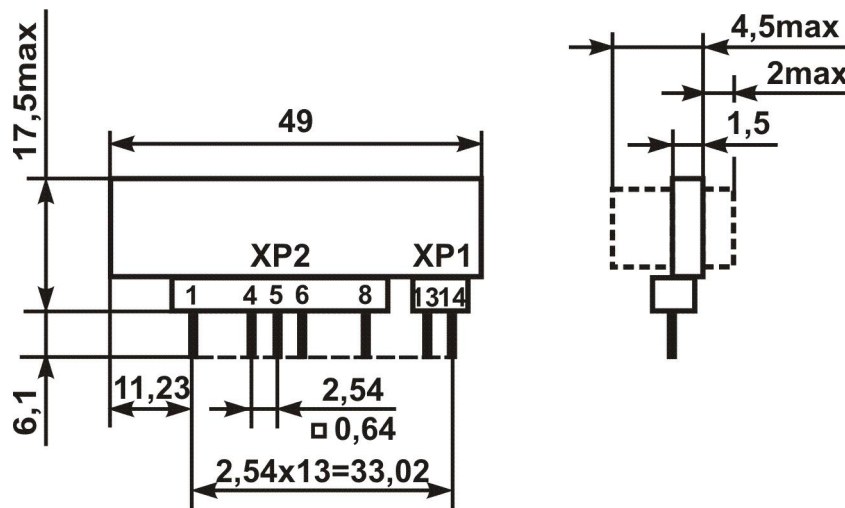
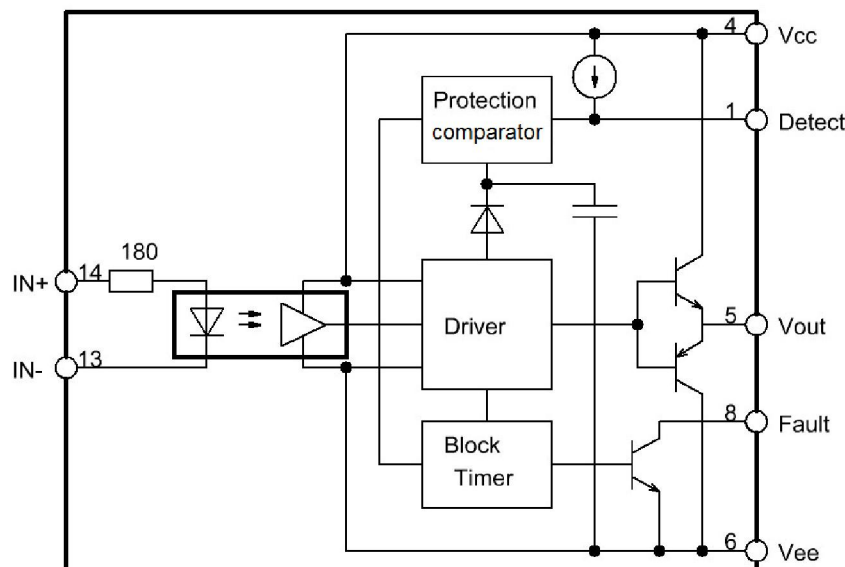
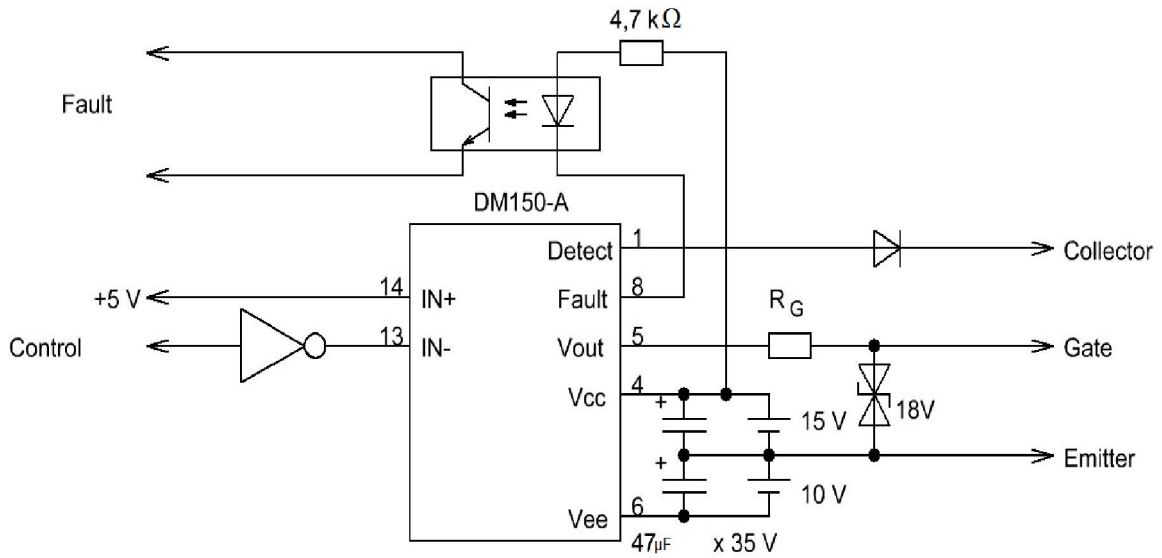

Figure 1 – Drawing
Figure 2 – Driver functional circuit
Figure 3 – Driver connection circuit
3.1 Overall drawing is shown at Figure 1, functional circuit is shown at Figure 2, as well as connection circuit is shown at Figure 3.
Fault – output signaling about fault. The output is an open transistors collector of non-saturation protection circuit. The output has a galvanic isolation with output circuits; it is recommended to use optocoupler that connected according to scheme at Figure 3 to transfer status signal to galvanic isolated input driver circuit.
V_{CC}, V_{EE} – connection output of positive and negative supply according to output driver circuit therewith total range of supply voltages on these outputs should not exceed 35 V. You should install the capacitors 20...100 µF to supply connection outputs relative “ground” (ref to Figure 3). Current consumption of these outputs should not exceed 150 mA in any mode otherwise the driver can fail.